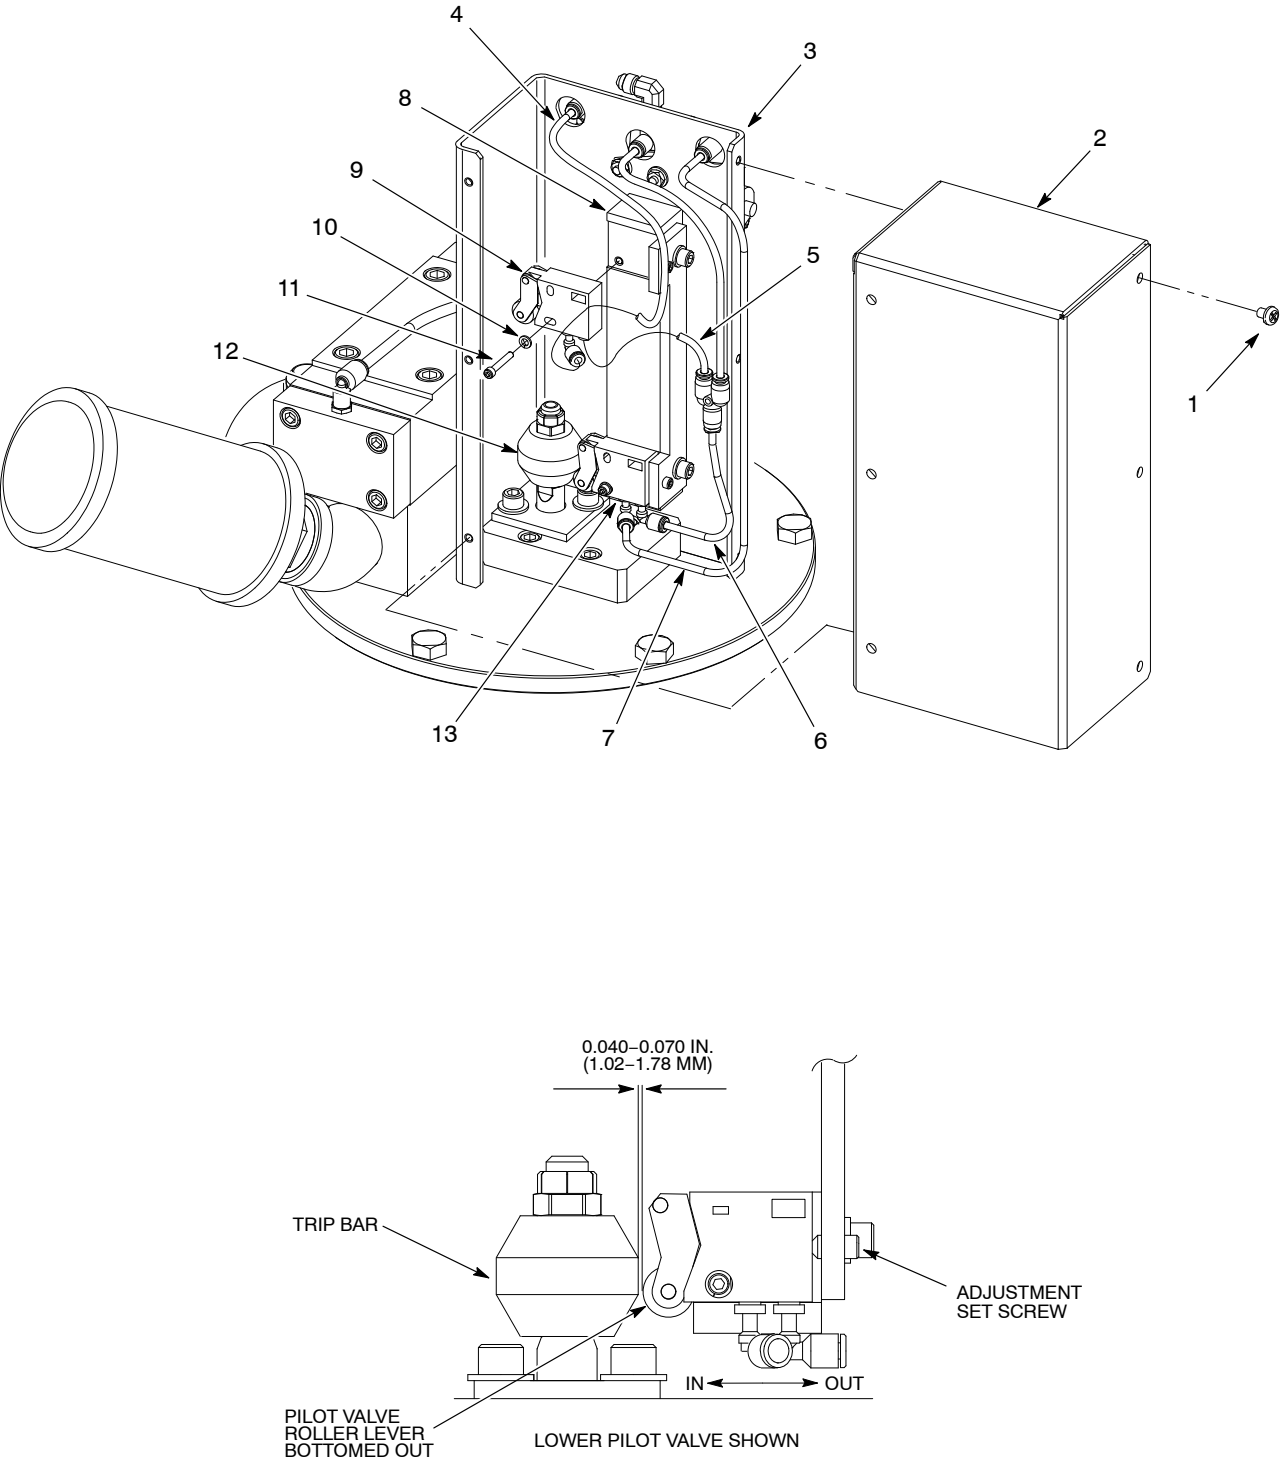

Figure 10 Replacing a Pilot Valve
1. See Figure 10. Remove the screws (1) securing the cover (2) to the trip-rod assembly (3).
3. Remove the screw (11) and washer (10) securing the pilot valve (9 or 13) to the mounting pad (8).
4. Install the pilot valve (9 or 13) to the mounting pad (8) using the washer (10) and screw (11). Thread the screw into the mounting pad. Do not tighten the screw at this time.